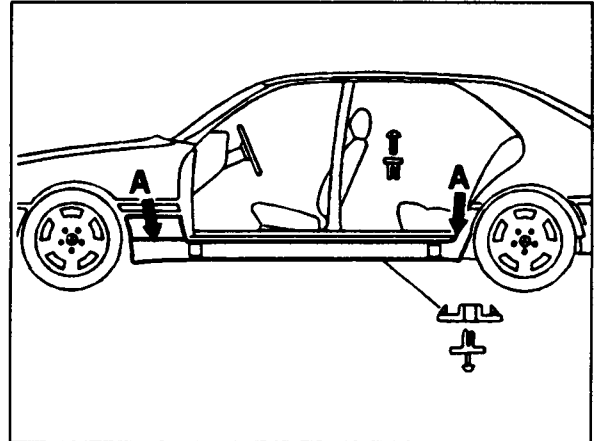

Figure 10
7. Press in AMG snap fasteners in door opening and on underside of vehicle (Figure 10).